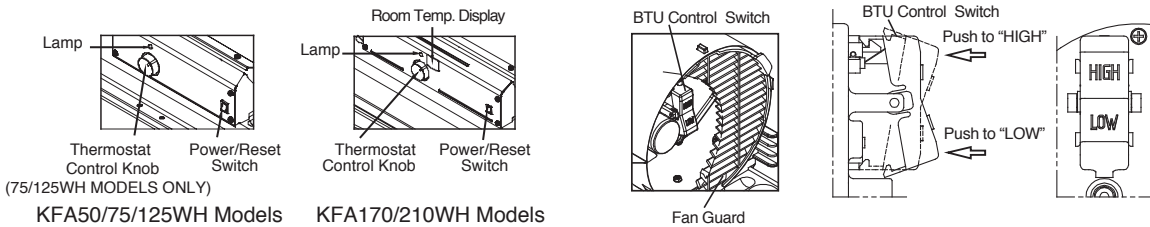

Figure 8. Controls for All Models
Insert screws through handles, fuel tank flange and wheel support frames as shown in Figure 8 and attach nut finger tight after each screw is inserted.
5. Push “BTU control Switch” to desired level “High or LOW” (See Figure 8.) (KFA170/210WH Models Only)